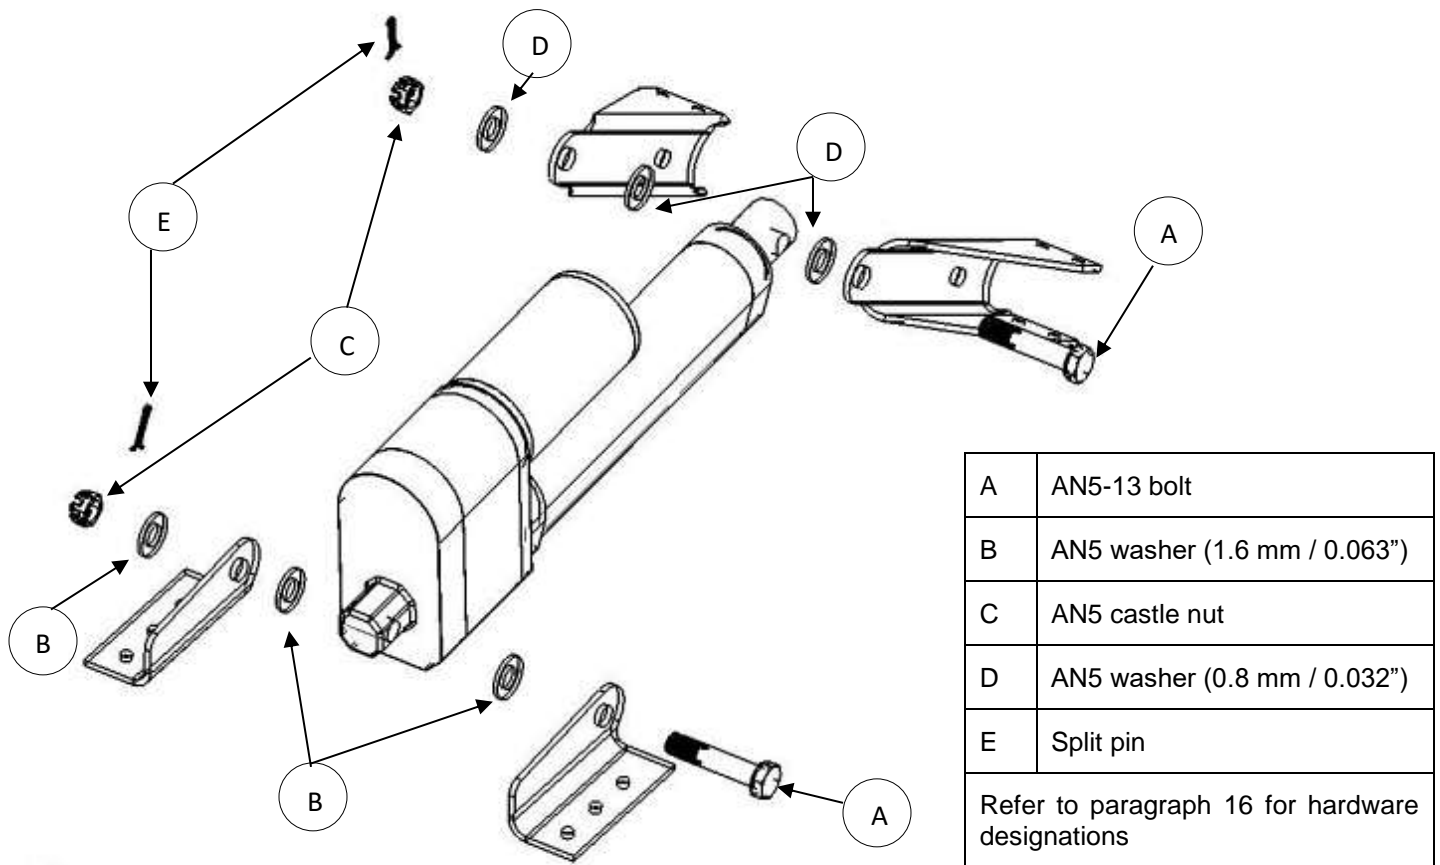

Figure 21: Flap actuator motor installation.
- Observe correct placement of washers (refer to Figure 21).